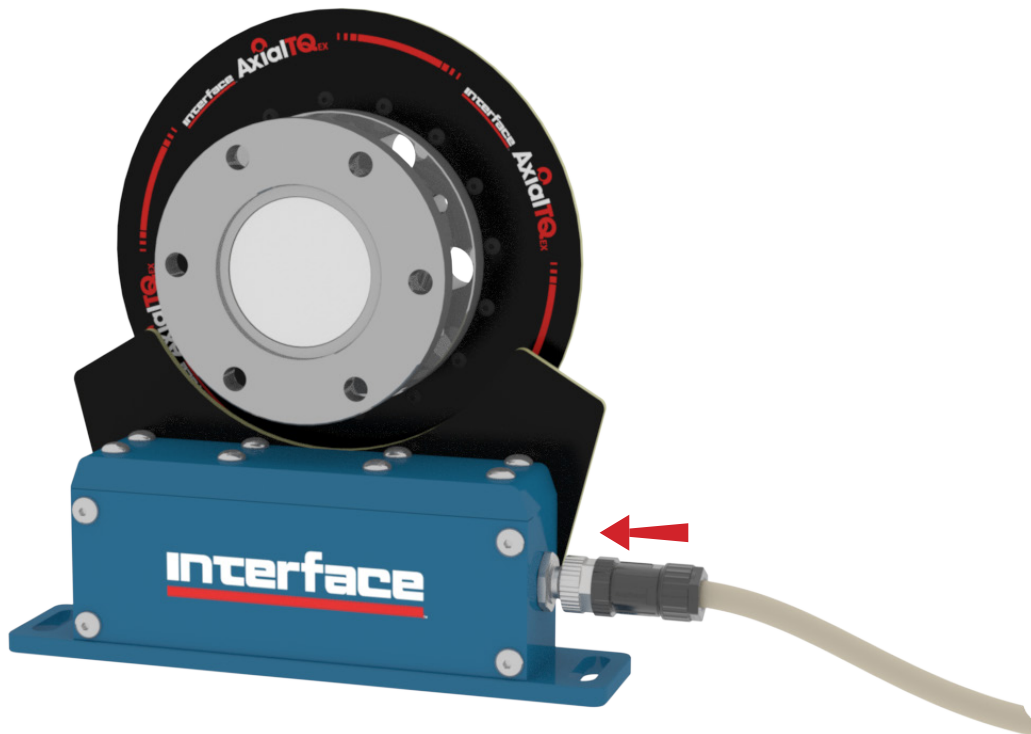

Figure 8
13.2 Attach the stator cable from the output module to the stator. See *Figure 8*.